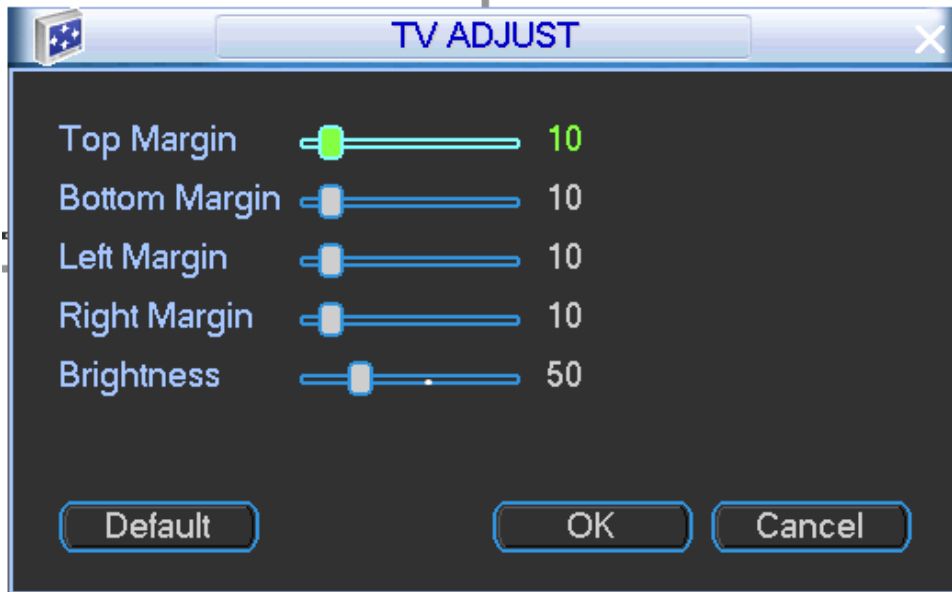

Figure 4-80
Step 1 From main menu->Advanced->TV adjust, enter TV adjust interface. See Figure 4-80.